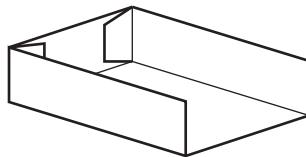

Fig. 2.2
- 2 Fold and staple the card to make a shallow box with one side missing, as shown in Fig. 2.2.